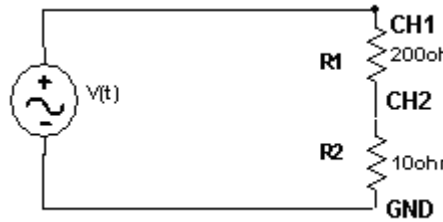

Figure 7.4: Circuit of Part B.
2. Implement the circuit in figure 7.4. Check the source signal after assembly.
For the circuit shown in figure 7.4: